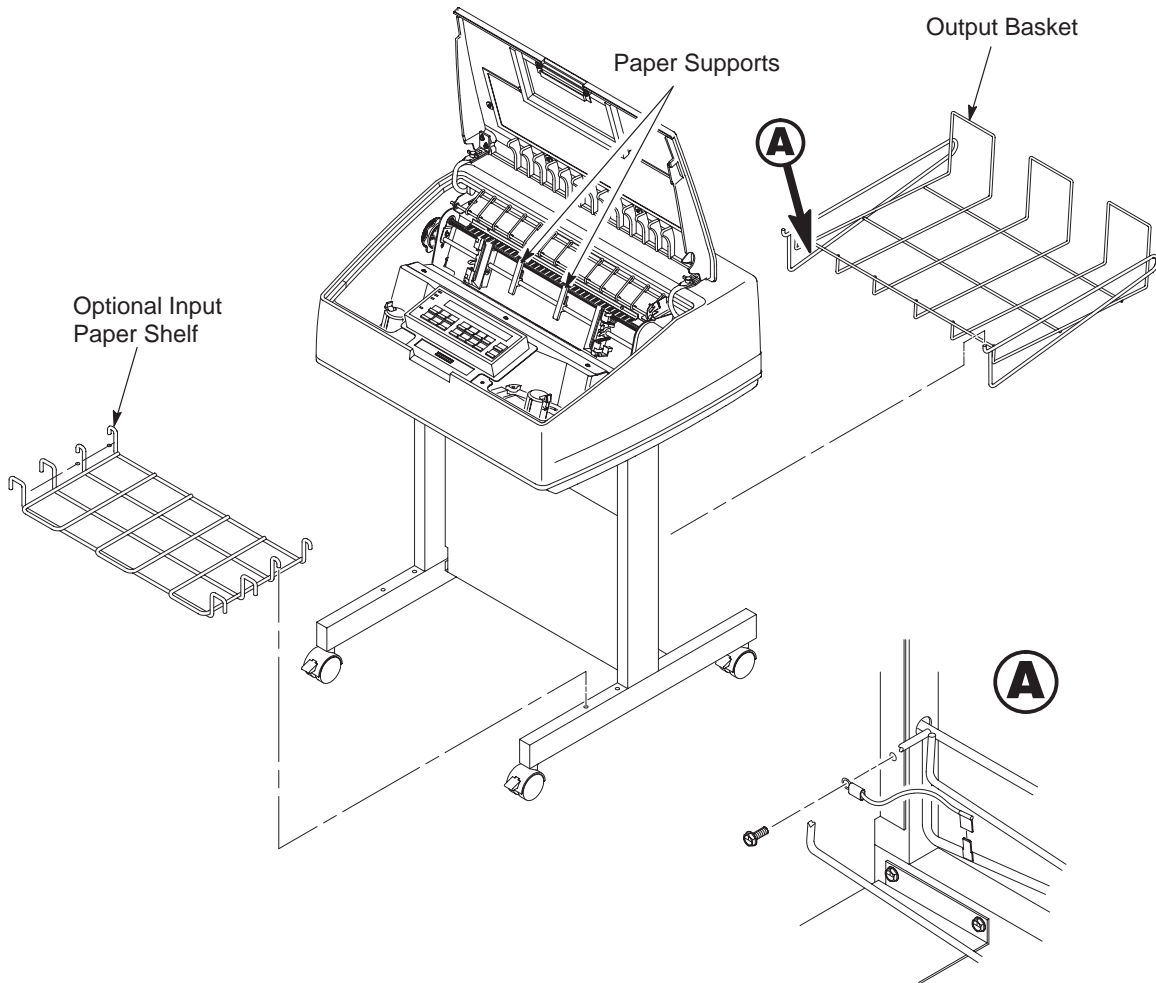

Figure 2–14. Attaching the Input Paper Shelf and Output Basket
1. Slide the two paper supports toward the center of the support shaft. Position them so that they divide the space between the tractors into three approximately equal segments. See Figure 2–14.